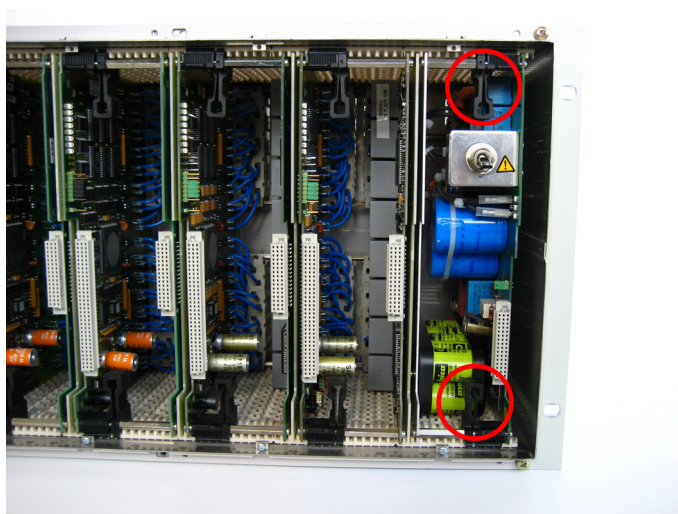

Figure 2-6 Deblocking the power supply module
- ❑ Detach the power supply module by pushing the black locking levers left until the levers unlatch from the PCB. Flip both locking levers forward simultaneously (approx. 45°) until the levers snap into the second position on the PCB (see Figure 2-6).